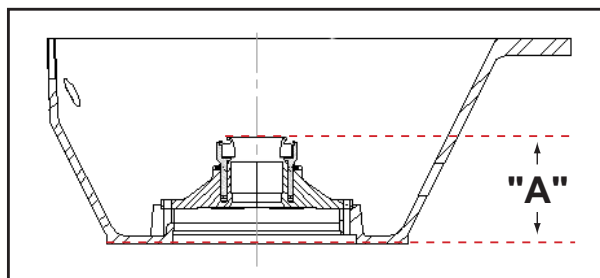

Figure 2: Distance from engine mounting surface to top of bearing
- 3) Measure the distance "A" as shown in **Figure 2**. This is the distance from the engine/transmission housing interface to the top of the hydraulic release bearing with the piston fully retracted.